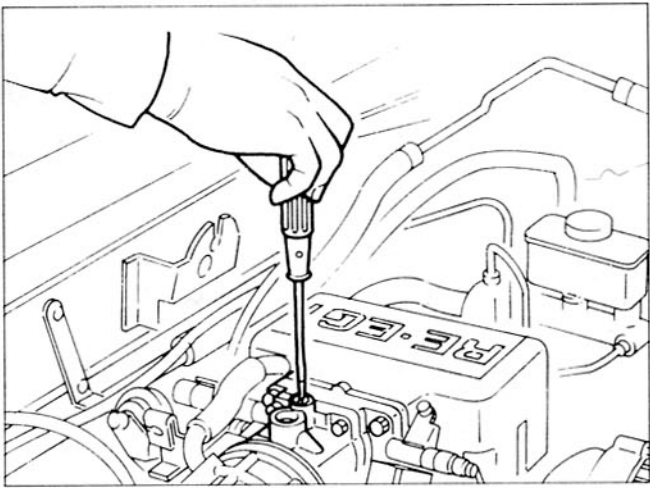

Figure 5
6. Check the idle speed. Adjust the idle speed to specification, if necessary, by turning the air adjust screw.(Figure 5)